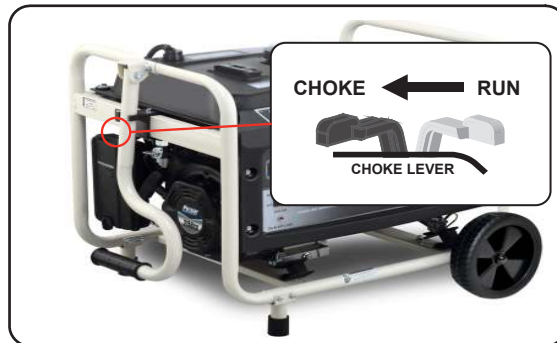

Fig 8
- Slide the choke lever to the “Choke” position. (See fig 8) **SKIP THIS IF THE ENGINE IS WARM OR HOT.**